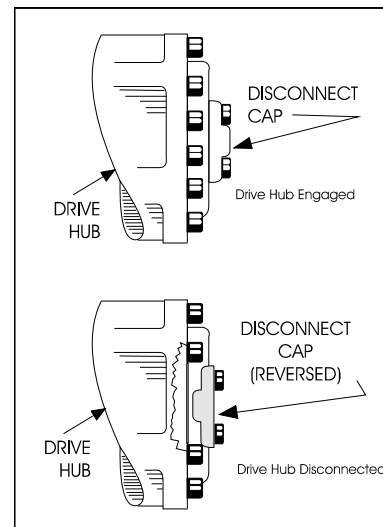

Figure 4-7. Drive Disconnect Hub
2. Disconnect drive hubs by inverting the disconnect cap. (See Figure 4-7.) After towing the machine, complete the following:
3. Reconnect drive hubs by inverting the disconnect cap. (See Figure 4-7.)